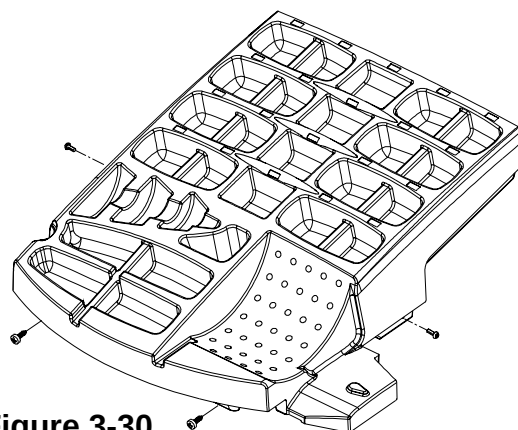

Figure 3-30
1. Remove the screws from the front and side of the weight tray. (Figure 3-30)